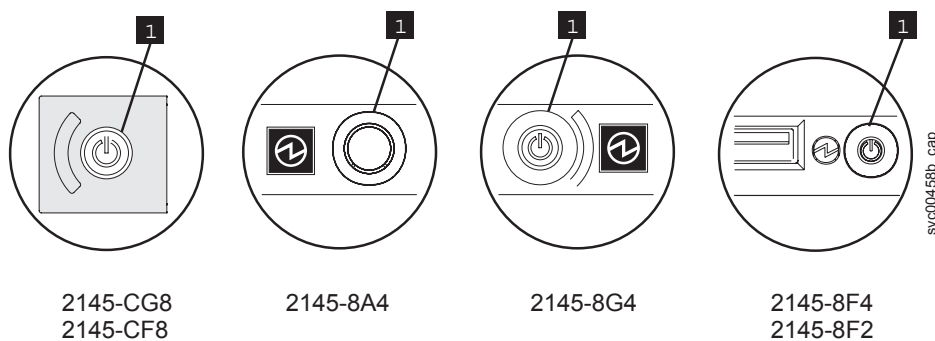

Figure 89. SAN Volume Controller models 2145-CG8, 2145-CF8, 2145-8A4, 2145-8G4, and 2145-8F4 or 2145-8F2 power-control button
3. Press and release the power-control button **1** shown in Figure 89 for SAN Volume Controller models 2145-CG8, 2145-CF8, 2145-8A4, 2145-8G4, and 2145-8F4 or 2145-8F2. Wait one minute for the SAN Volume Controller to turn off. Ignore a missing node error code if displayed by other nodes in the cluster. When maintenance procedures are completed, the error will resolve itself.